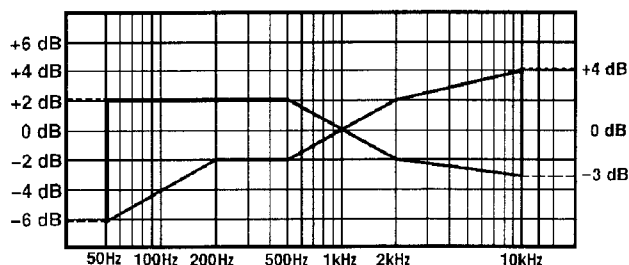

Fig. 11
4. Playback the recorded signals to confirm that the output is within the range of the overall frequency response shown in Fig. 11.